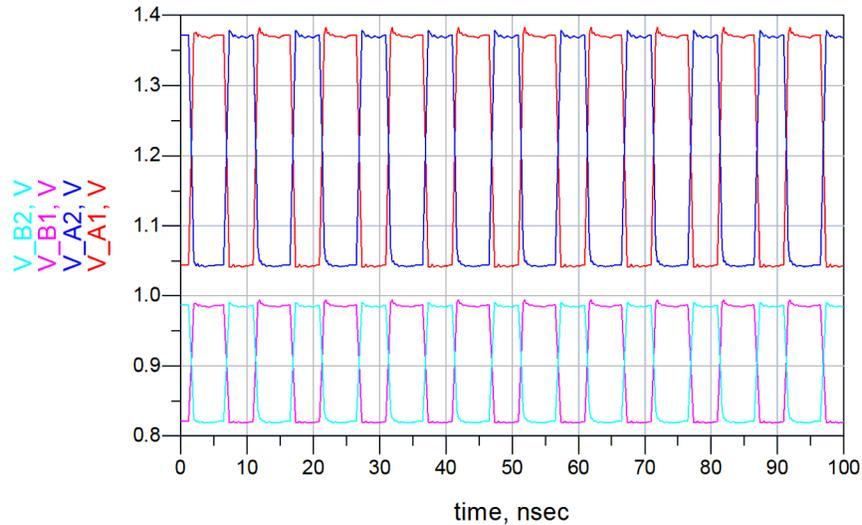

Figure 4-3. Simulation Results for Devices With Internal Termination
- The simulation shown in Figure 4-3 demonstrates a voltage swing of approximately: